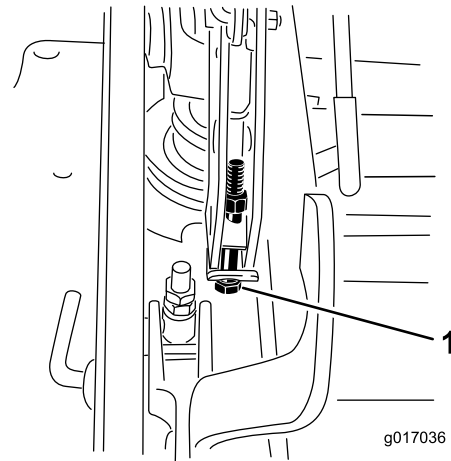

**Figure 90**
12. To adjust the single point system, loosen the 2 bolts at the bottom of the height-of-cut plate (Figure 90).
14. Tighten the 2 bolts at the bottom of the height-of-cut plate (Figure 90). T